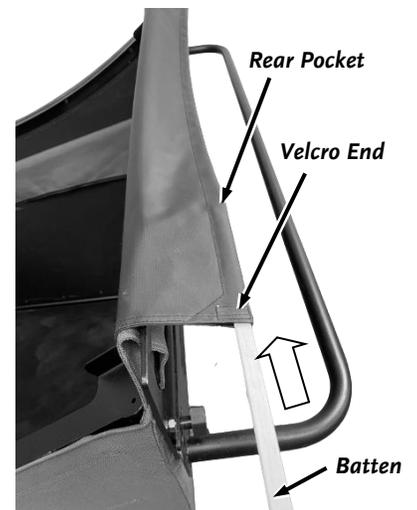

Figure 53
5. Install the Batten by slipping it into the rear door flap and velcroing the end shut (Figure 53).